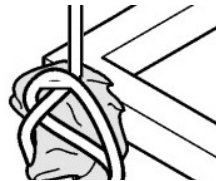

fig. 7.3
4. If using metallic cables or chains also for slinging, remember to protect painted and machined parts with cardboard, wood or cloths during handling (fig. 7.3).